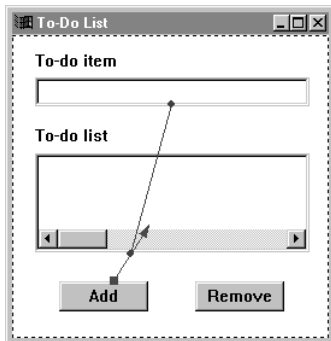

Figure 5. The Completed Connection for the Add Push Button
10. Select the *text* attribute. Selecting the *text* attribute here means that you want to pass the text that a user enters in the entry field to the *text* parameter of the *addAsLast* action. This text string is added to the end of the to-do list whenever the *addAsLast* action is called, which occurs whenever the **Add** push button is clicked. The completed connection is shown in Figure 5 on page 18.